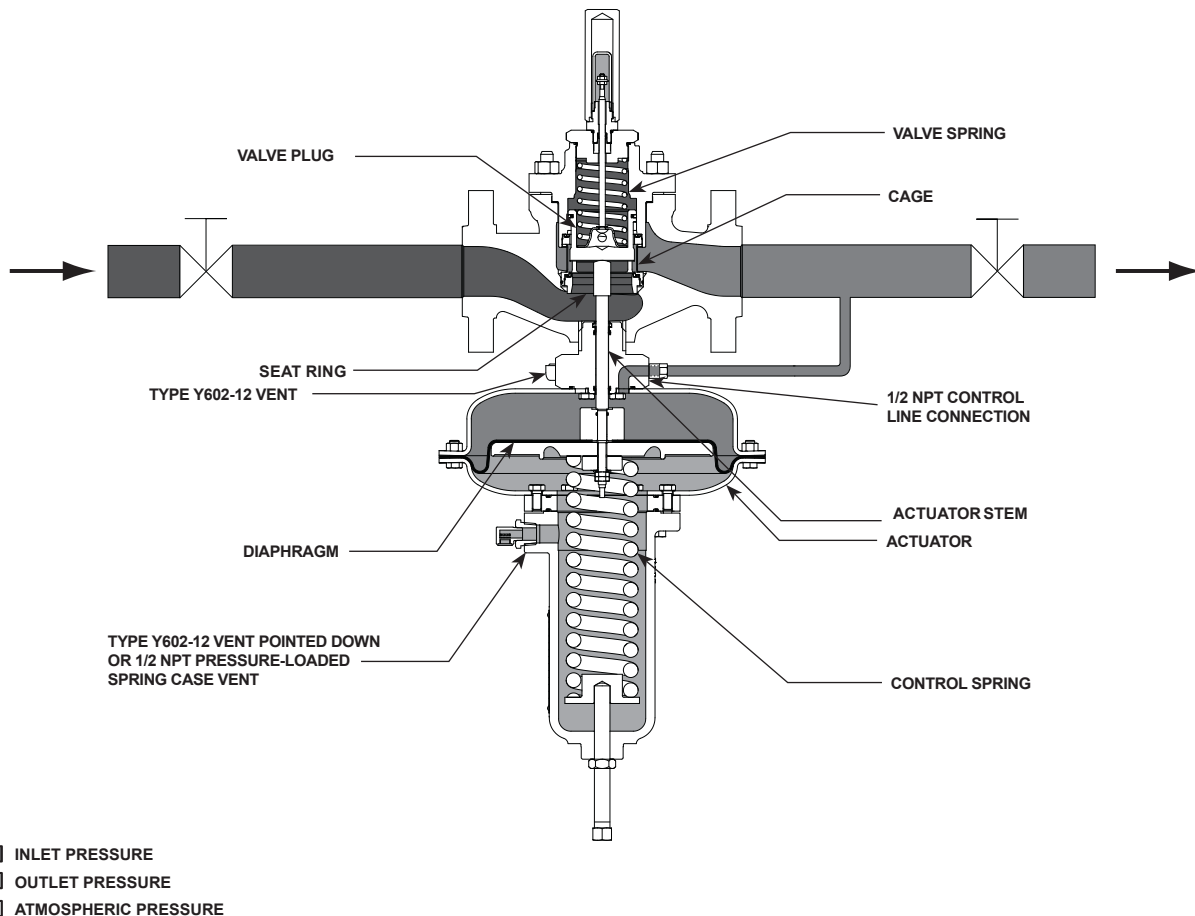
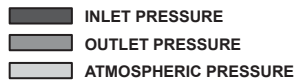
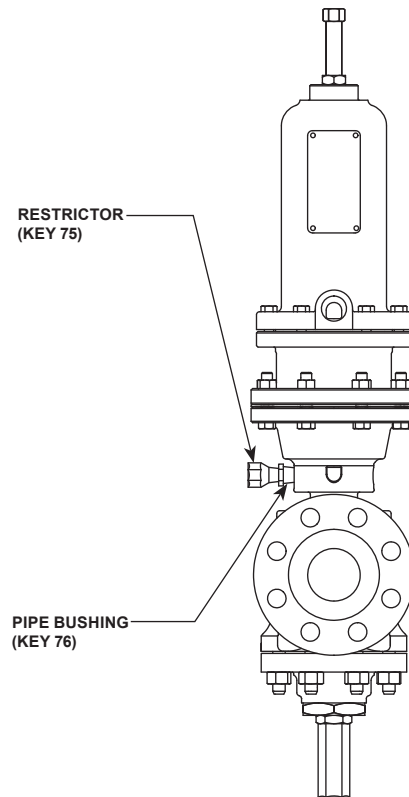

Figure 2. Type MR105 with Low-Pressure Actuator Operational Schematic
Figure 3. Type MR105 with High-Pressure Actuator Operational Schematic
Figure 4. Type MR105 with High-Pressure Actuator and Restrictor Option
The Type MR105 is a direct-operated pressure reducing regulator. Downstream pressure is registered externally through a 1/2 NPT control line tapped in the bonnet (for low-pressure actuator, see Figure 2) or in the lower diaphragm casing (for high-pressure actuator, see Figure 3). When downstream demand decreases, the pressure under the actuator diaphragm increases. This pressure overcomes the regulator setting (which is set by the regulator control spring). Through the action of the actuator stem and valve spring, the valve plug moves closer to the seat ring and reduces the flow. When demand downstream increases, pressure under the actuator diaphragm decreases. Spring force pushes the actuator stem downward, the valve plug moves away from the seat ring and the flow increases downstream as the regulator opens in response to the
To avoid premature wear of internal parts, it is recommended that the actuator be oriented up or down in liquid service as shown in Figures 2 and 3.
Restrictor is intended for use on liquid applications with high-pressure actuator. Refer to Figure 4.
The Type MR105 regulator requires a downstream control line for proper pressure control. A 1/2 NPT control line connection is located on the bonnet (for low-pressure actuator, see Figure 2) or on the lower diaphragm casing (for high-pressure actuator, see Figure 3). For high-pressure actuator with Quick Opening Cage (liquid service), pipe bushing (key 76) and restrictor (key 75) should be installed in the 1/2 NPT control line connection (see Figure 4).